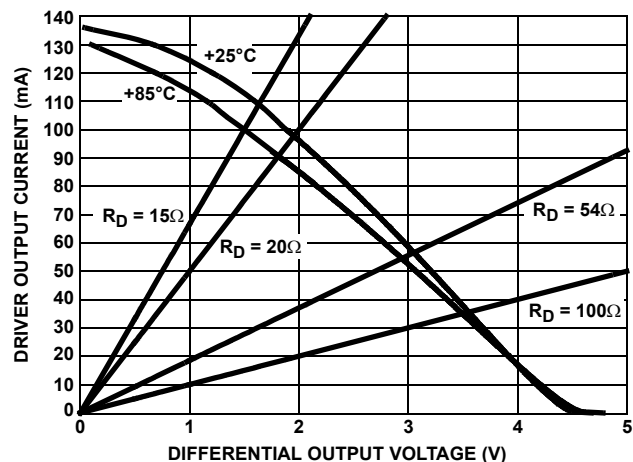

FIGURE 8. DRIVER OUTPUT CURRENT vs DIFFERENTIAL OUTPUT VOLTAGE
- See Figure 8 for more information, and for performance over-temperature.
Another advantage of the large  $V_{OD}$  is the ability to drive more than two bus terminations, which allows for utilizing the ISL3158AE in "star" and other multi-terminated, "non-standard" network topologies. Figure 8, details the transmitter's  $V_{OD}$  vs  $I_{OUT}$  characteristic, and includes load lines for six ( $20\Omega$ ) and eight ( $15\Omega$ )  $120\Omega$  terminations. The figure shows that the driver typically delivers  $1.65/1.5\text{V}$  into 6/8 terminations, even at the worst case temperature of  $+85^\circ\text{C}$ . The RS-485 standard requires a minimum  $1.5\text{V}$   $V_{OD}$  into two terminations, but the ISL3158AE delivers RS-485 voltage levels with 3x to 4x the number of terminations.